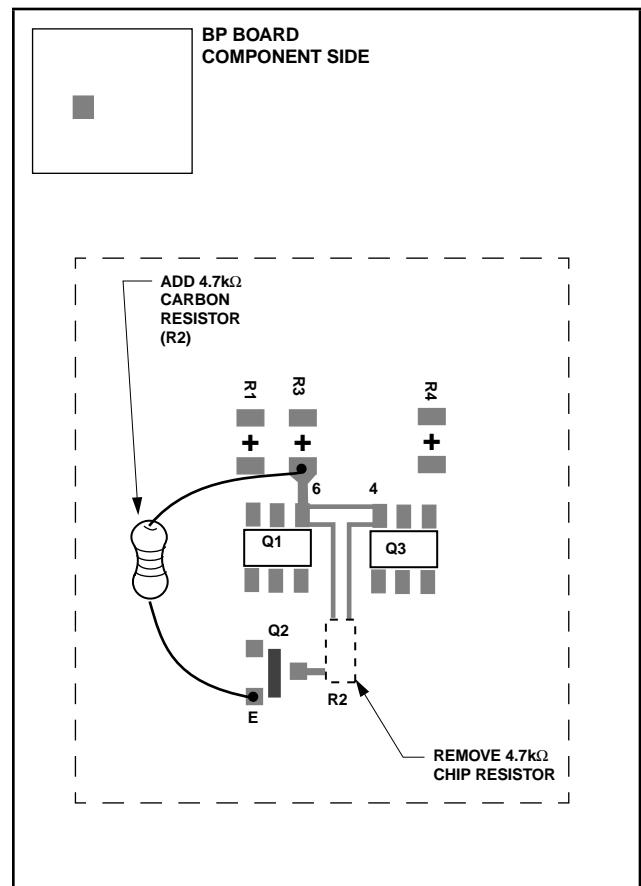

Figure 1
2. Solder 4.7kΩ carbon resistor between Q1 pin 6 (or Q3 pin 4) and Q2 emitter. (See Figure 1.)